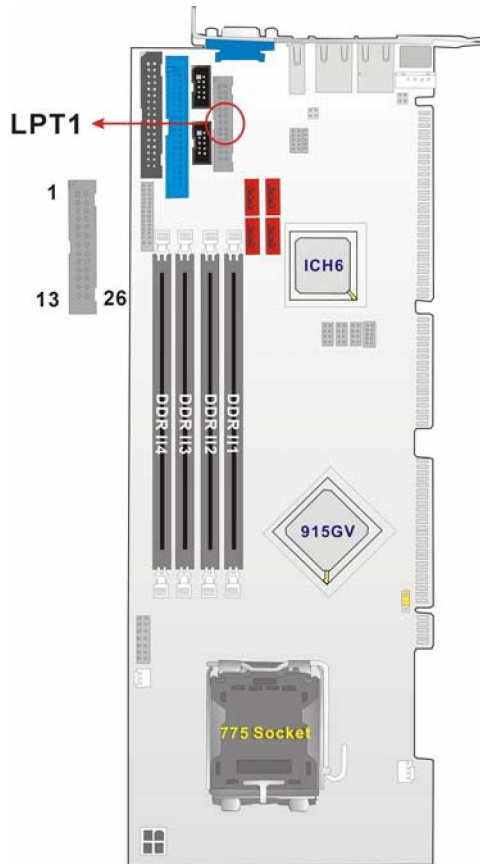

Figure 3-5: LPT Connector Location
**CN Location:** See Figure 3-5